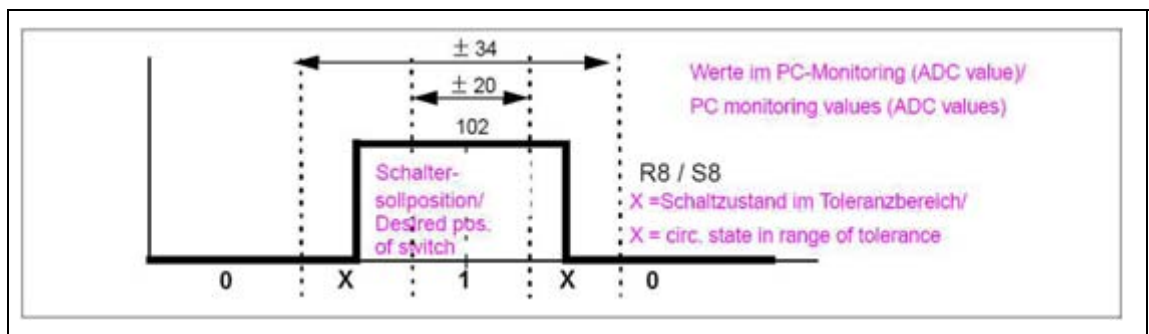

Fig. 7: Switching hysteresis S8
- Check the switching hysteresis of reference switch S8 according to (Fig. 7 / p. 41) in "Monitoring".